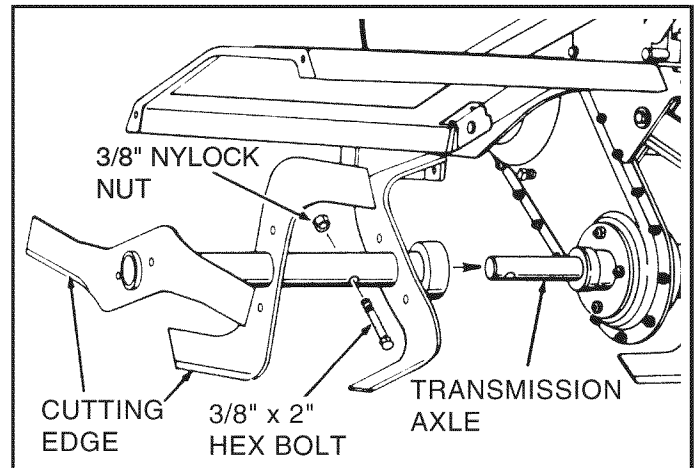

FIGURE 3
- Remove the pre-assembled 3/8" x 2" hex bolt and 3/8" nylock nut from the left hand tine assembly. Slide the tine assembly onto the transmission axle on the left side of the tiller and secure with the hex bolt and nylock nut. (See Figure 3.) Repeat for opposite side.